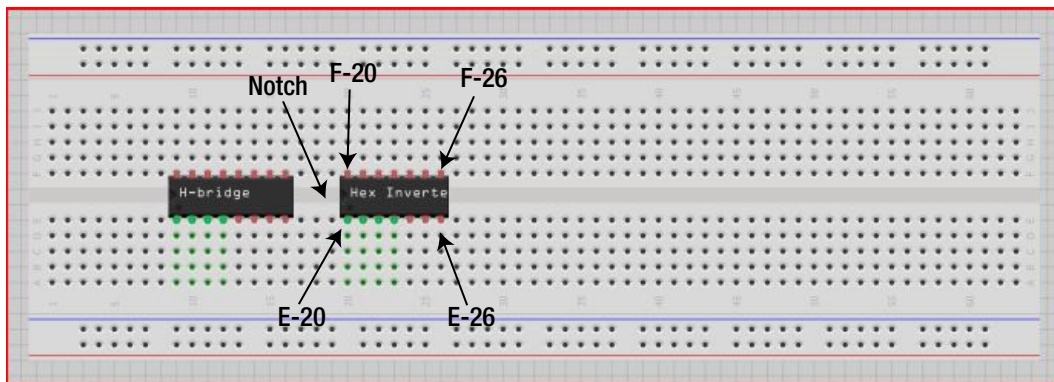

Figure 15-4. Attaching the hex inverter to the breadboard
2. Insert the hex inverter in the breadboard as shown in Figure 15-4, making sure the dot on the chip's surface is facing to the left. The seven pins on one side of the chip are inserted into E-20 through E-26, while the seven pins on the other side are inserted into F-20 through F-26.